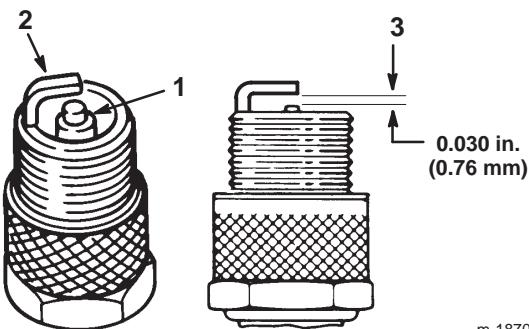

Figure 26
1. Look at the center of the spark plug (Fig. 26). If you see light brown or gray on the insulator, the engine is operating properly. A black coating on the insulator usually means that the air cleaner is dirty.